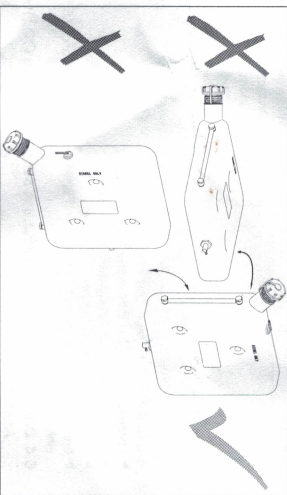

Fig. 2 Permissible installation position
- The permissible installation position is vertical (see Fig. 2).